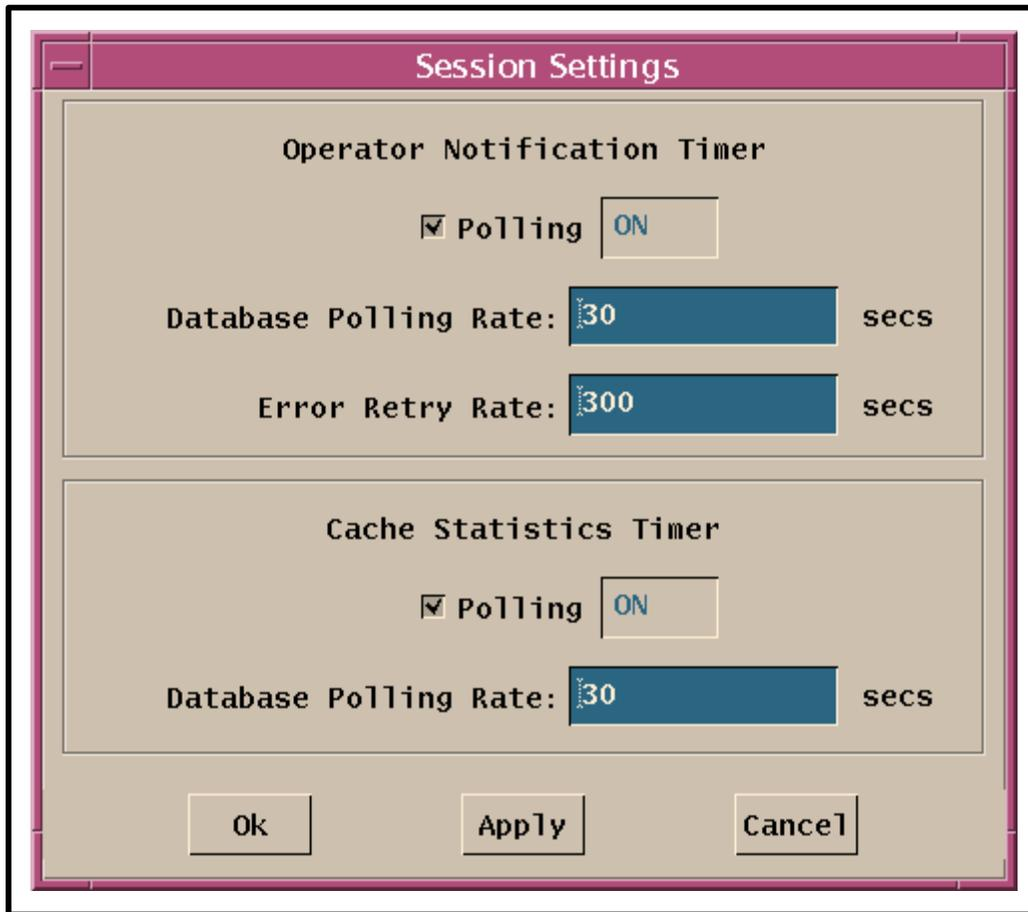

Figure 20. Session Settings Dialogue Box
- The **Session Settings** dialogue box (Figure 20) is displayed.